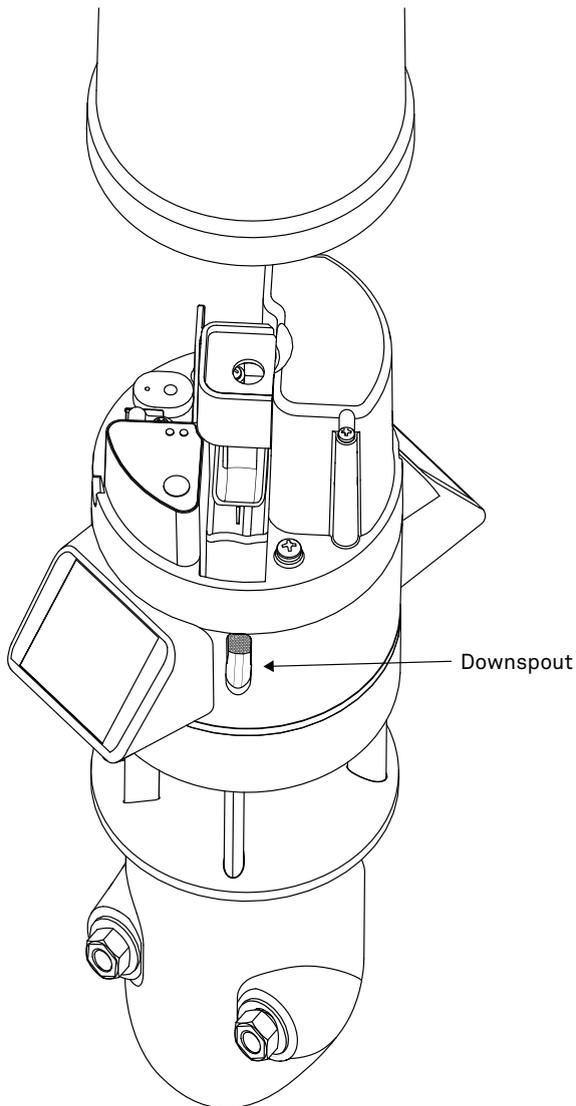

Figure 33 Downspout
- c. Check the downspout (Figure 33) for debris.